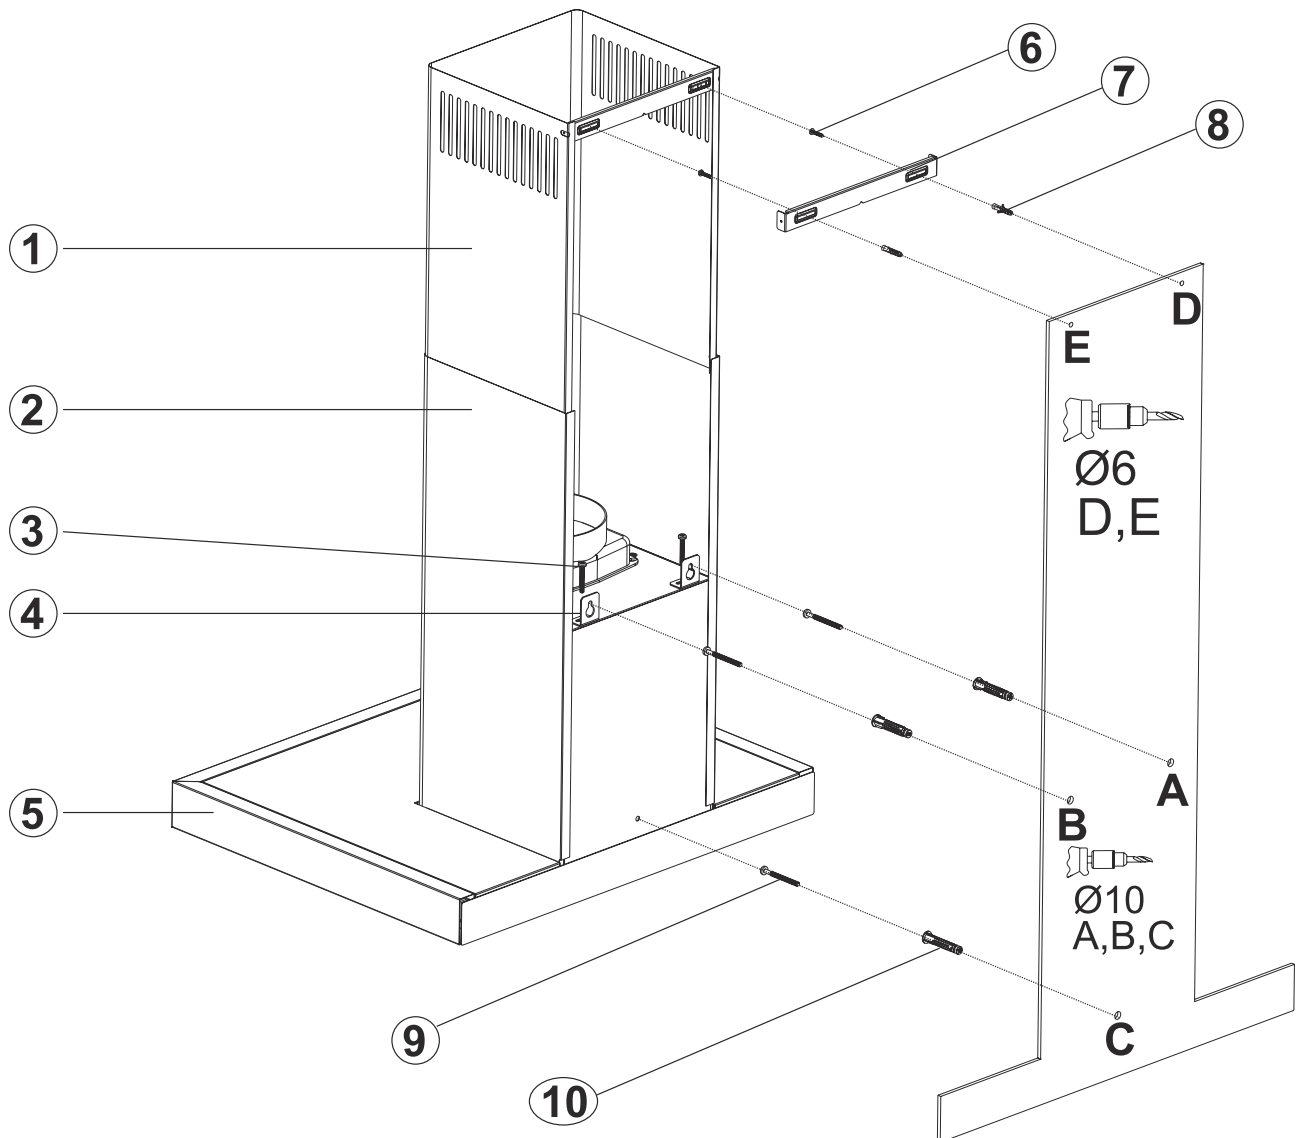

Fig. 12
2. ➤ Affix the assembly pattern on the wall at the specified height (See the minimum and maximum distances intended for the worktop, in the assembly pattern) and drill holes A, B and C with the dimensions specified in the template (Fig. 12).
3. ➤ Insert \varnothing 10mm wall plugs into the holes drilled as A, B, C, D, and screw down the 5.5 x 60 screws (9) at the points A + B, in such a way as to remain 5mm space between the screw head and the wall (Fig. 12).
4. ➤ Affix the hanging plates of the cooker hood on the body of the cooker hood with M5x35 bolt (3) (Fig. 12).
5. ➤ Hang the hood from its hanging plates on the wall at points (A, B). If the hood is not parallel, position its shape to parallel by tightening or loosening M5x35 screw (3).